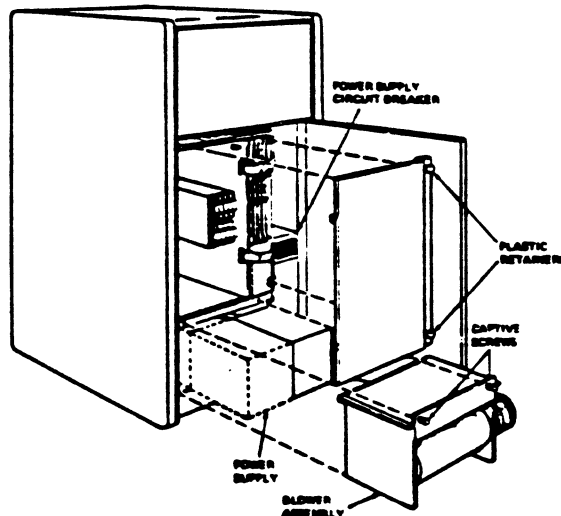

FIGURE 5-19 BLOWER ASSEMBLY REMOVAL
5. Slide the blower assembly out while lifting up, and remove it from the cabinet. See Figure 5-19.